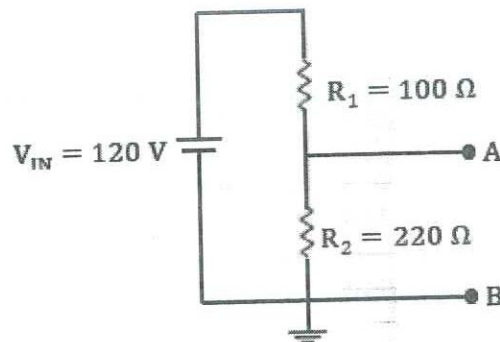

Figure Q2.1: Voltage divider circuit.
- b) Considering the following circuit given in Figure Q2.1, find the possible voltage range across the A and B points when the tolerance value for both resistors is 5%. [4.0 Marks]